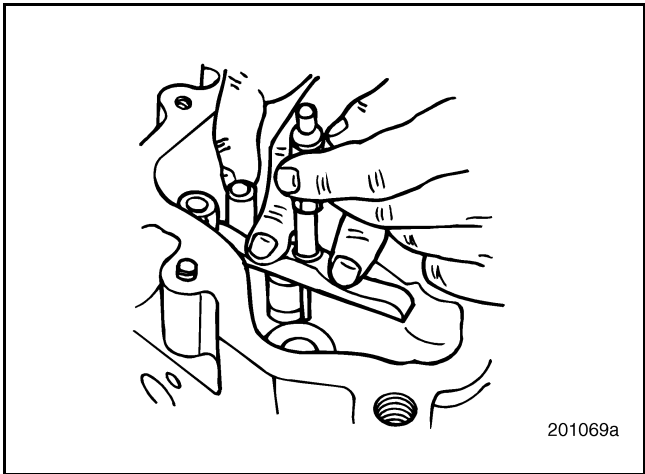

Figure 257 — Checking Valve Guide Extension
2. Use a depth gauge to check valve guide extension (Figure 257).
4. Using the depth gauge, check the extension of the guide from the valve spring seat to the top end of the guide. Refer back to Figure 257.